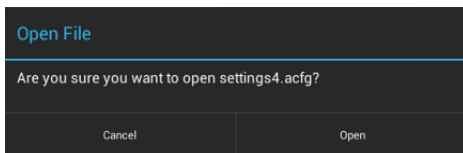

FIG. 91 Open File window
4. The panel will prompt you to verify this action (FIG. 91):